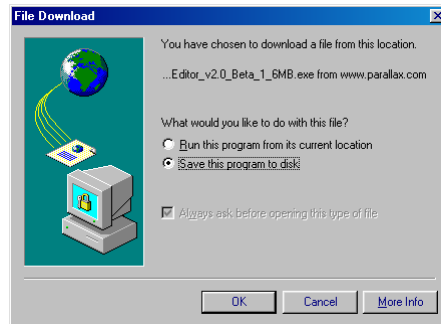

Figure 1-10
- ✓ When the File Download window shown in Figure 1-10 appears, select: *Save this program to disk*.